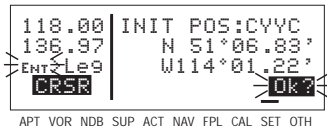

Figure 3-61
- With the right inner knob, position the cursor over **Ok?**, if it is not already there (figure 3-61).